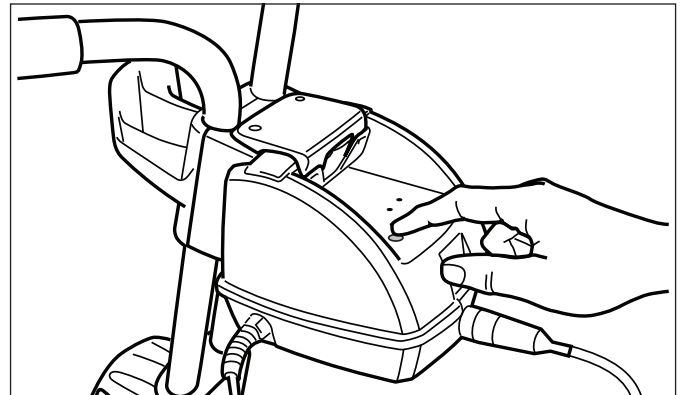

Figure 16. Start the Cleaner
1. To start your 9300 Sport cleaner, press the button for "Cycle I" cleaning program. "Cycle I" cleaning is the primary cleaning cycle for inground pools. If an alternative cycle is preferred, press "Cycle II". Refer to Figure 16. The indicator light illuminates and the cleaner starts up after just a few seconds. When the cleaner is powered ON it will remain in standby until the Cycle I button is pressed.